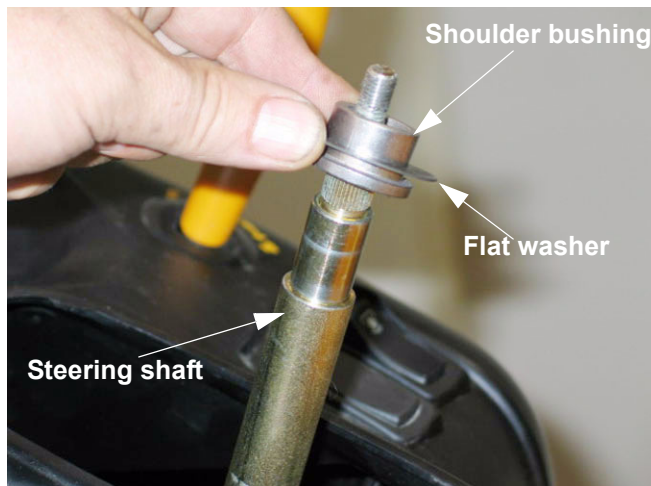

Figure 1.11
- 1.11. There is a shoulder bushing and flat washer on the steering shaft. They provide support for the steering shaft boot, and reduce friction between it and the steering shaft. Remove them. See Figure 1.11.